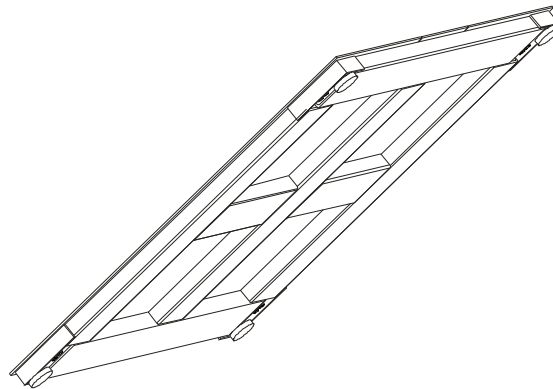

FIG. 18 ALL FOUR FEET INSTALLED
Step 5. Install all four (4) feet. (See Fig. 18)